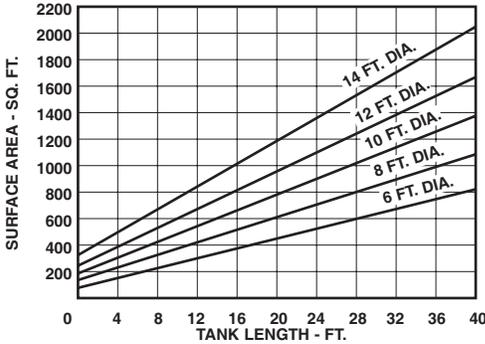
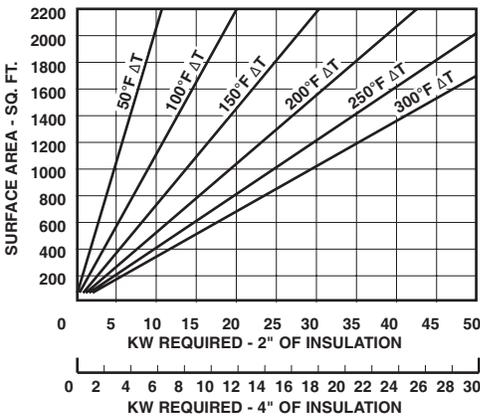
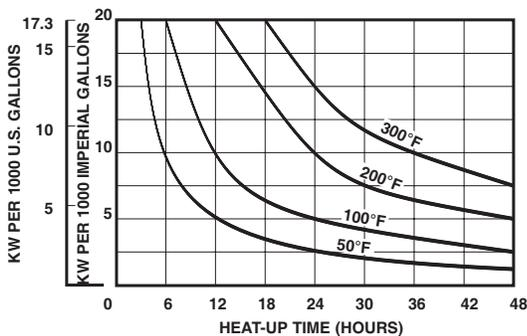

Figure 29 – Tank Surface Area vs. Length
Figure 30 – Tank Surface Area vs. Recommended (Installed Kilowatts)
Figure 31 – Tank Capacity vs. Heat-Up Time for Asphalt
Use the graphs (Figure 29 and Figure 30) and the explanation on the following page to determine the kilowatts necessary to maintain the tank at the required temperature. Next, select the required number of heaters with an insert length long enough to provide good heat distribution.
Solving Heating Problems: Figure 29 through Figure 31
Step 1: Use tank diameter and length and Figure 29 to determine tank surface area.
Step 2: Using Figure 30, surface area, and maximum design temperature difference between tank contents and surroundings, the heat loss can be determined for 2" (51 mm) or 4" (102 mm) of insulation.
Step 3: Figure 31 for asphalt or heavy oil, is used to determine the additional energy required for heat-up from a cold start if cold loads are added. Use maximum heat-up times to minimize installed kW requirements.